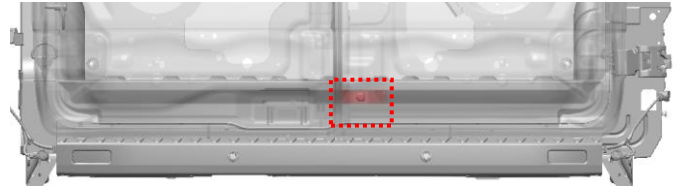
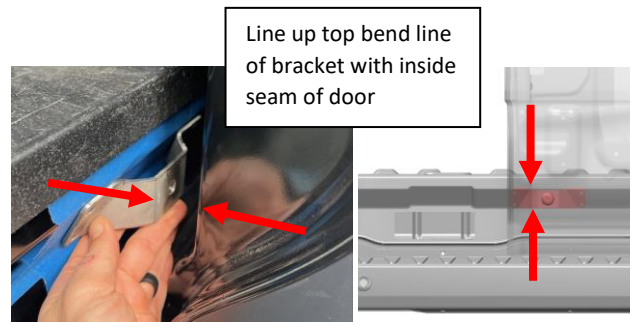

Figure 38: Bump Stop Installation Location
Figure 39: Bump Stop Mounting Alignment with Door
29. Place painter's tape in the location for the passenger door interior bump stop as shown in Figure 38 & Figure 39. Dry fit the bump stop assembly into position and mark drill locations.